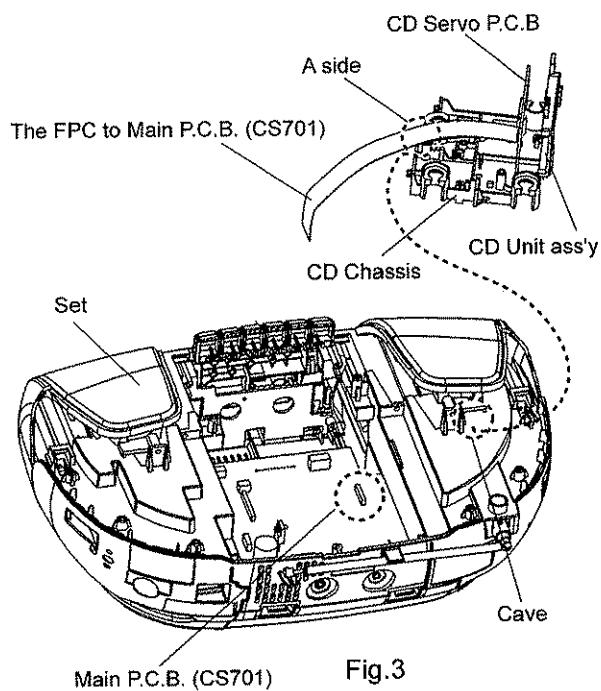
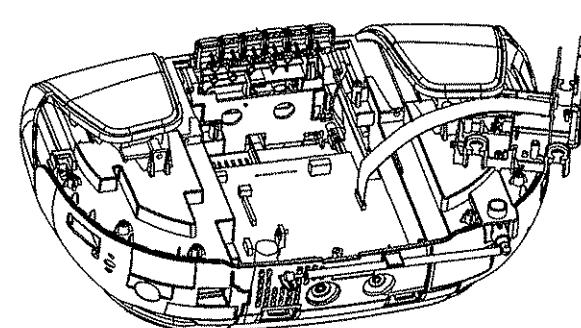

Fig.3
Fig.4
Step 2: Insert the A side of CD chassis to the cave of set and secure it . (Fig.3 & Fig.4)
Step 3: CD unit FPC to main P.C.B. (CS701) (Fig.3)